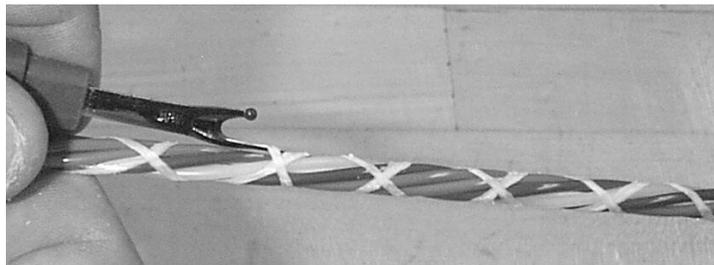

Figure 9 – Cut and remove the binder threads
4.10 Unwrap the binder threads from the core and cut them flush with the outer jacket (Figure 9).